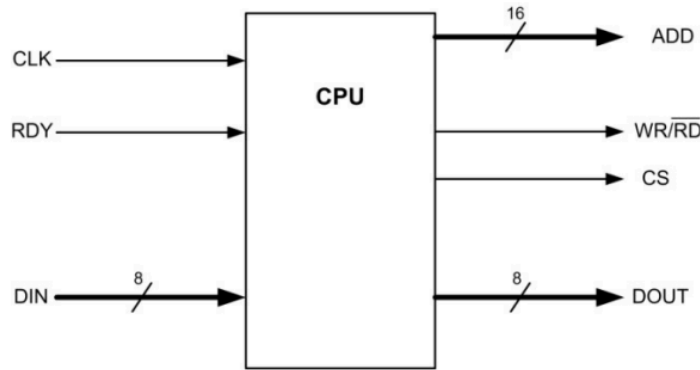

Figure 1. CPU symbol interface.
The CPU requests write and read transactions to the cache. The CPU itself has a chip select strobe (CS), a read/write enable (WR/RD), a 16-bit address (ADD), 8-bit data input and output ports: DIN and DOUT, and a ready indicator (RDY). The clock signal (CLK) is synchronized with the Cache Controller and sends read or write instructions to it. The ready signal (RDY) is used to indicate whether the cache is in an idle or busy state. The ports are shown in Figure 1. The CPU interface has an 8-bit data input pin (DIN) that gets data from the Cache (SRAM). It also sends an address to the Controller, along with a read/write signal and a CS strobe. The CS strobe tells the SRAM that the address, read/write signal, and data output are ready to be used for the instruction. The CS signal